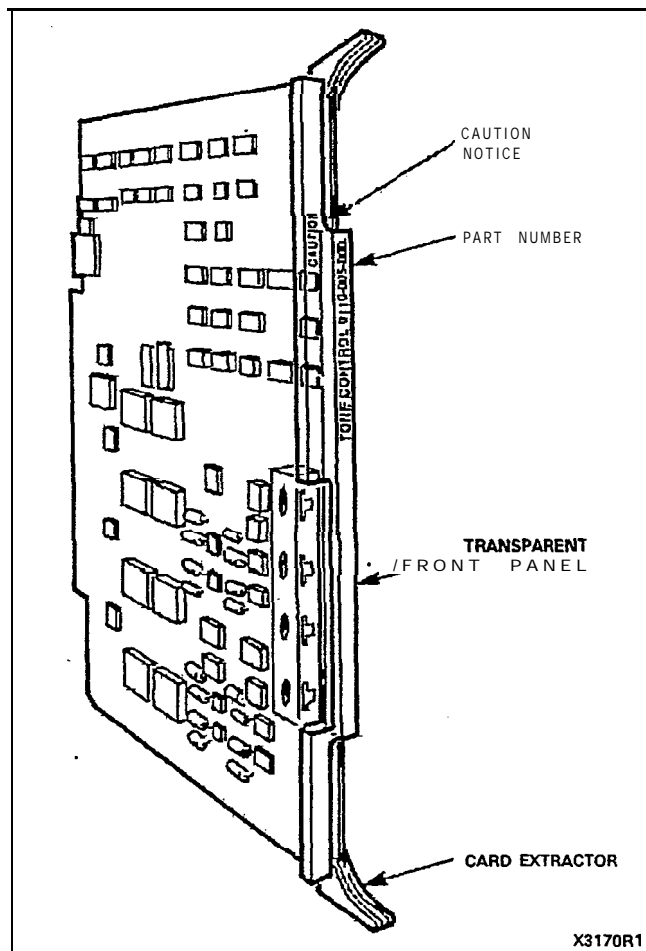

Figure 2-7 Typical Printed Circuit Card
2.11 All circuit cards (see Figure 2-7) within the SX-100 system or the SX-200 system are identical in construction and consist of a fiberglass board with printed wiring patterns on both of its faces. Rivetted to the front of each board is a transparent faceplate which allows the LEDs mounted on the front of the boards to be easily seen. The two color-coded card extractors, located at the top and bottom of the faceplate, identify the card position (see Table 2-1) within a shelf and ensure that the card is seated correctly in the backplane connec-